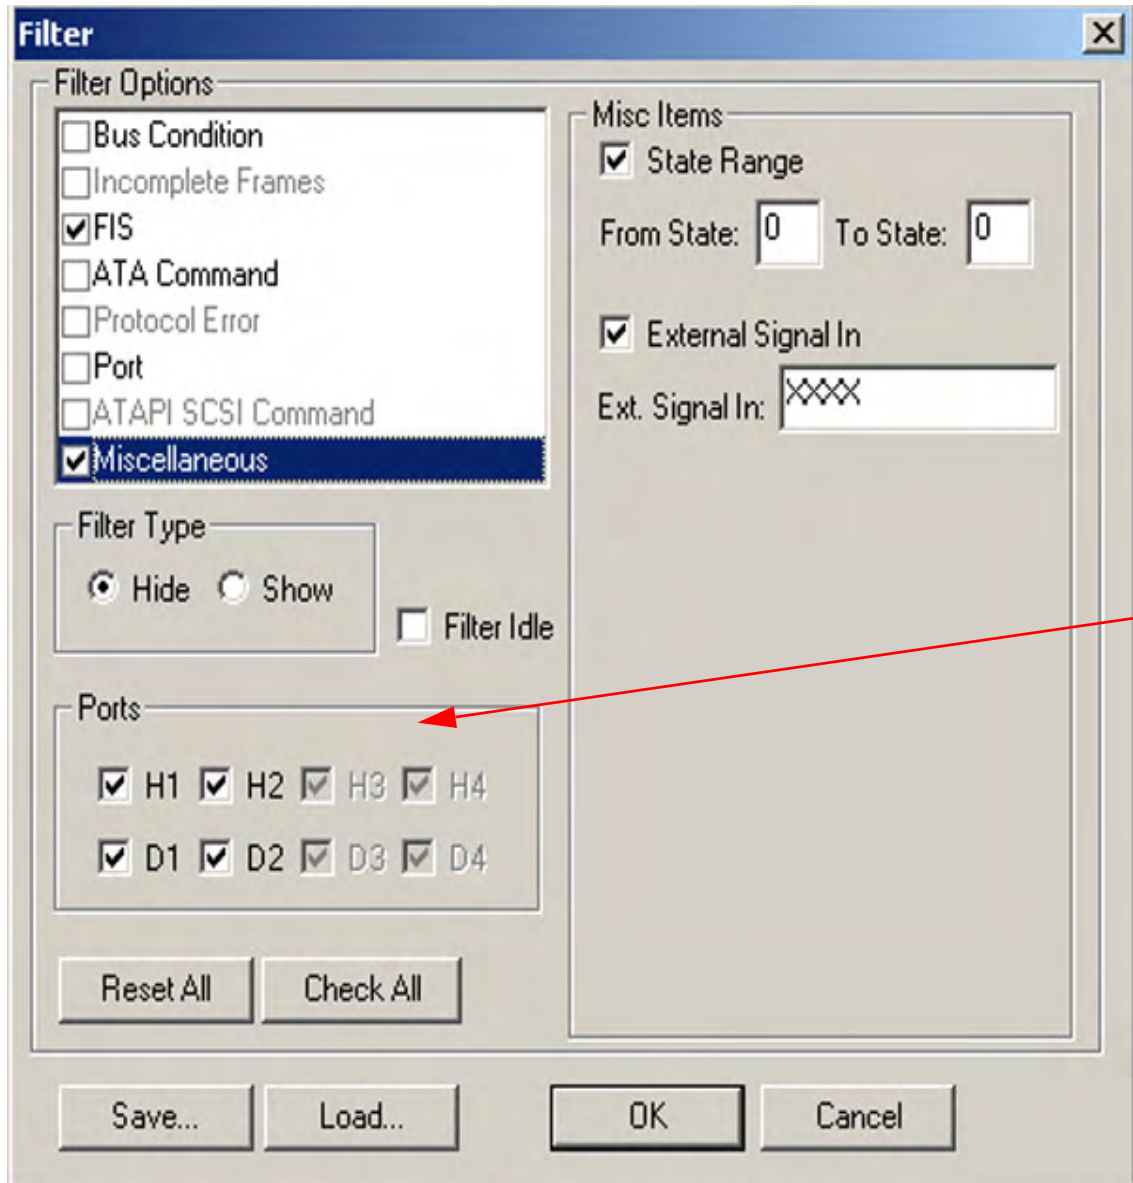

Figure 3.124: Filter State and/or Device Sleep
- Filter Idle (see Figure 3.124 on page 215)